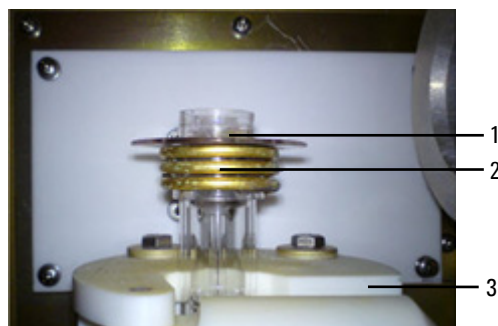

Figure 8. Induction coil—radial where 1. Torch, 2. Induction coil and 3. Torch clamp
- a Push up the pressure bar screws. This releases them from the resting bar (refer to Figure 8).